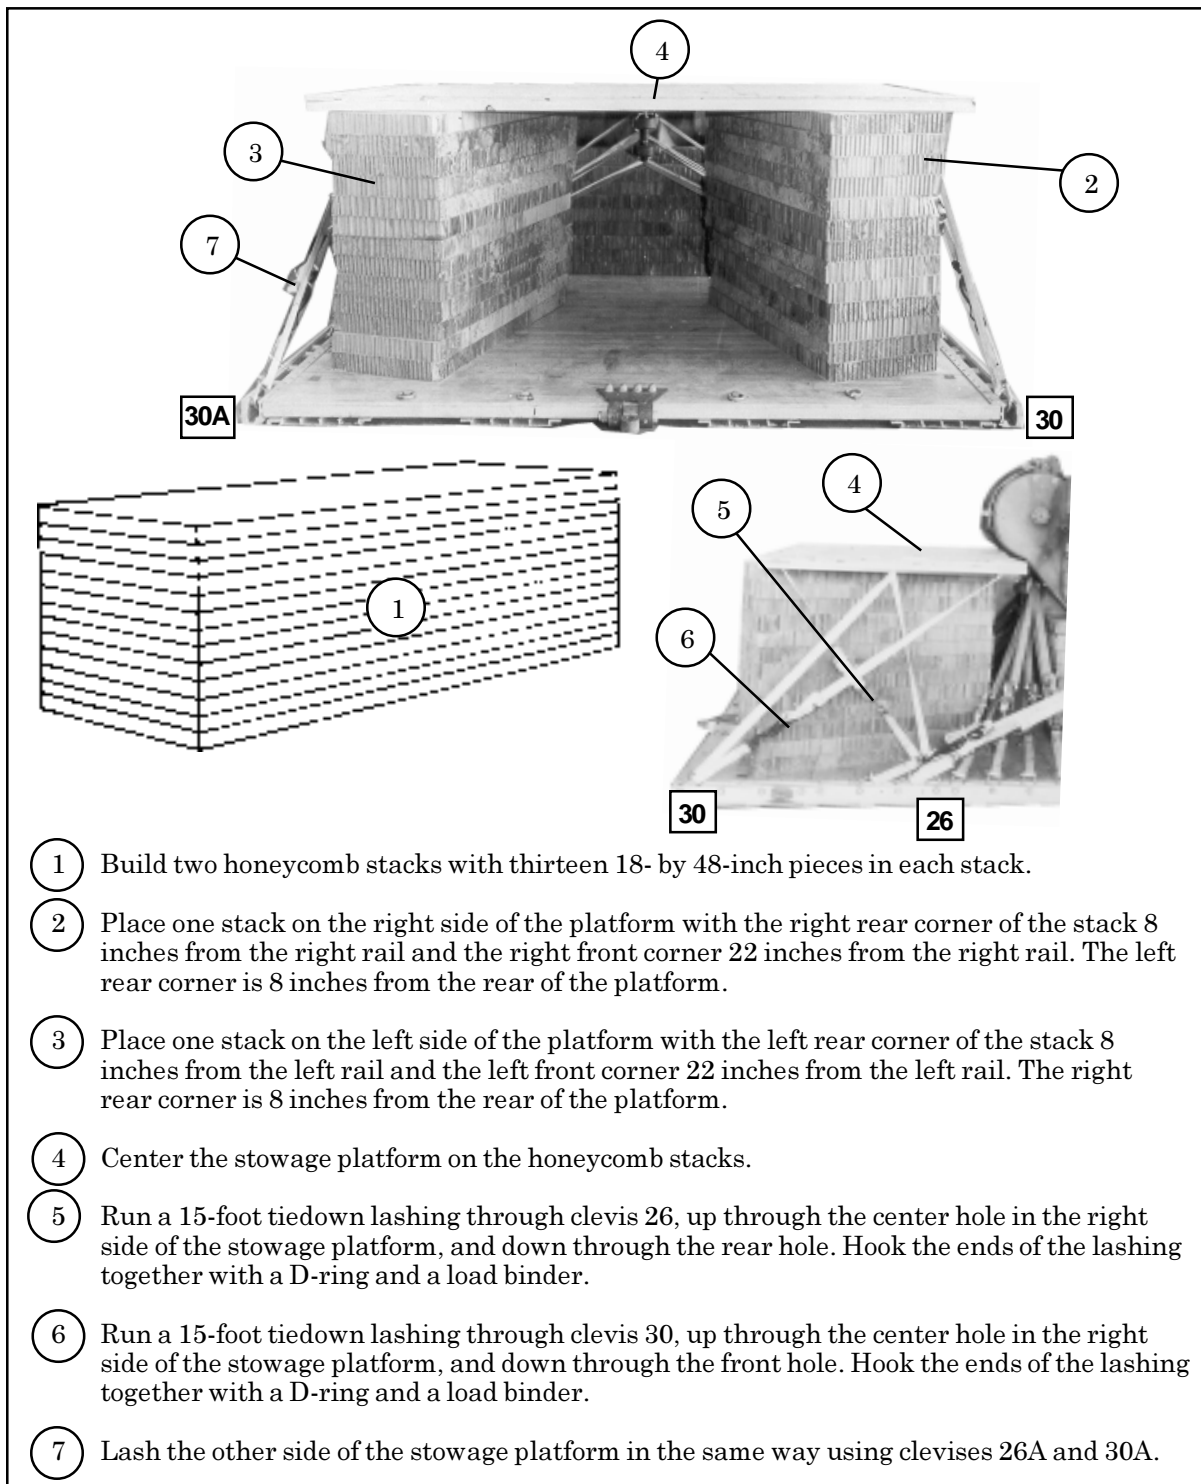

Figure 2-25. Stowage Platform Positioned and Secured
b. Securing Stowage Platform. Position and secure the stowage platform as shown in Figure 2-25.